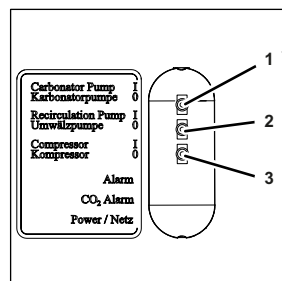

Fig. 17
4. Turn the compressor switch (Fig. 17/3) to position "0".
5. Turn the circulation pump switch (Fig. 17/2) to position "0".
6. Turn the carbonator pump switch (Fig. 17/1) to position "0".